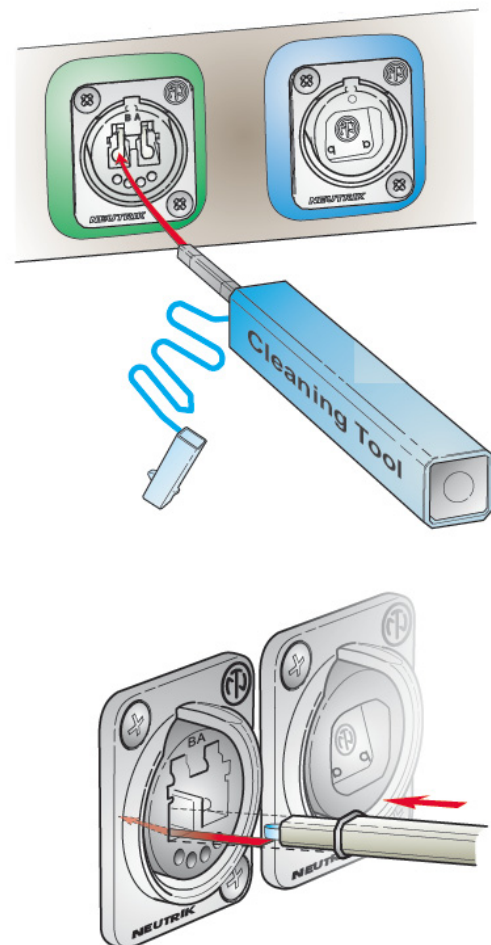

Figure 4-28:
- Step 5. Carefully align the IBC Click Cleaner guide onto an LC connection. (**Figure 4-28**)